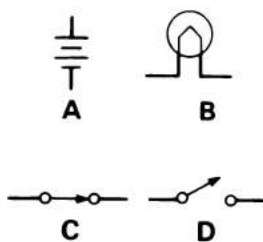

Figure 1-17
13. The schematic symbols for four components are shown in Figure 1-17. Identify each one:
13. Figure 1-17 shows the following schematic symbols: